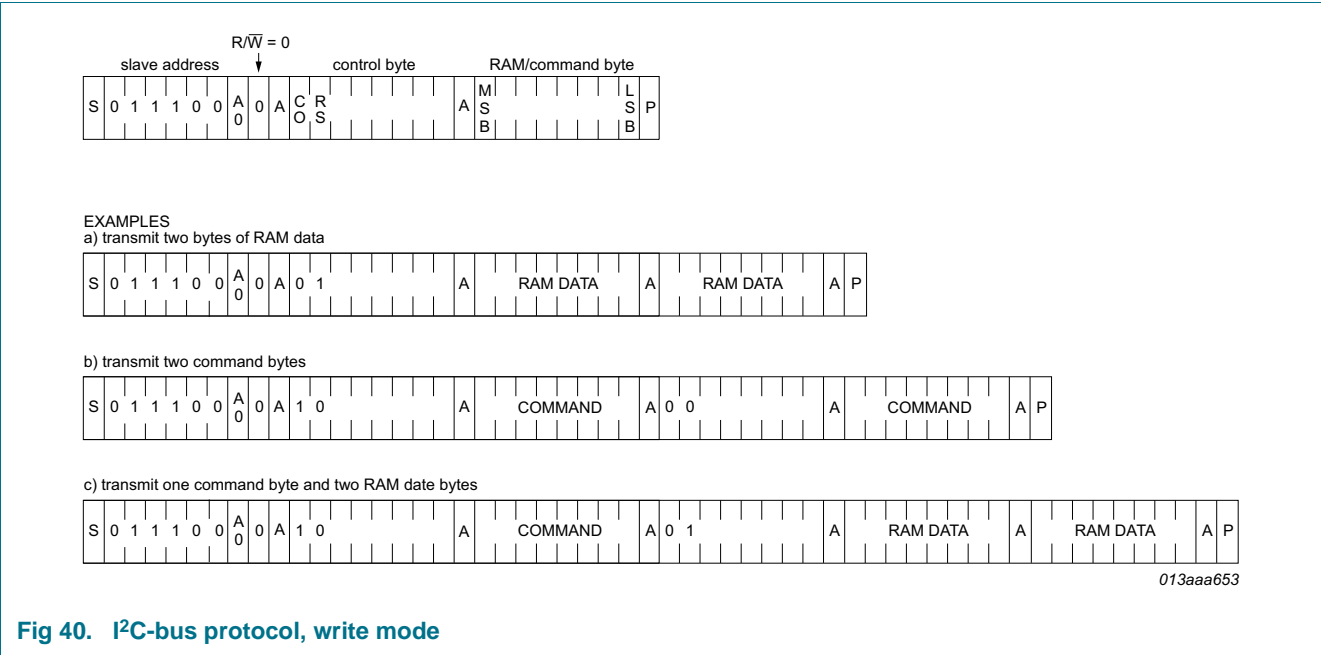

Fig 40. I2C-bus protocol, write mode
The I2C-bus protocol is shown in Figure 40. The sequence is initiated with a START condition (S) from the I2C-bus master which is followed by one of the two PCA8547A slave addresses available. All PCA8547A's with the corresponding A0 level acknowledge in parallel to the slave address, but all PCA8547A with an alternative A0 level ignore the whole I2C-bus transfer.